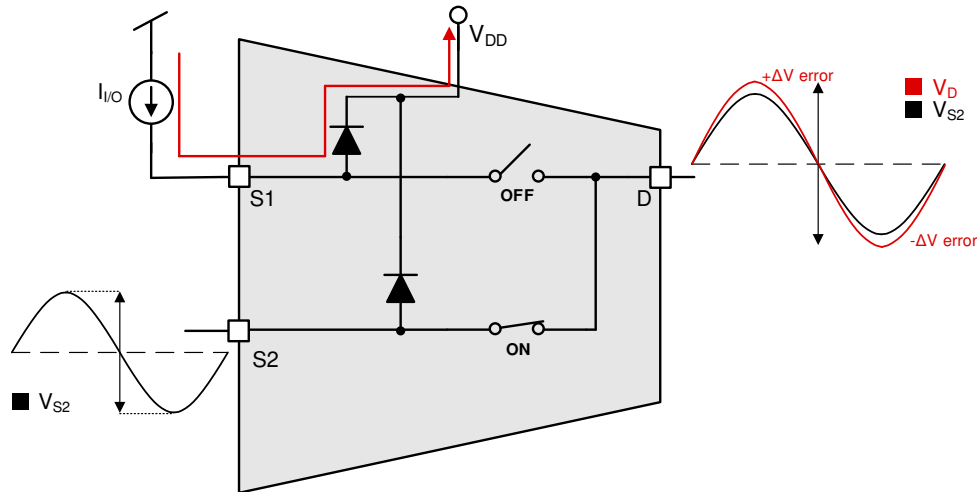

**Figure 9-1. Simplified Diagram of Typical CMOS Switch and Associated Injected Current Path**
**Injected Current Impact:** typical CMOS switches have ESD protection diodes on the inputs and outputs. These diodes not only serve as ESD protection but also provide a voltage clamp to prevent the inputs or outputs going above  $V_{DD}$  or below  $GND$  and  $V_{SS}$ . When current is injected into the pin of a disabled signal path, a small amount of current goes through the ESD diode but most of the current goes through conduction to the drain. If forward diode voltage of the ESD diode ( $V_F$ ) is greater than the PMOS threshold voltage ( $V_T$ ), then the PMOS of all OFF switches turns ON and there would be undesirable subthreshold leakage between the source and the drain that can lift the OFF source pins up also. Figure 9-1 shows a simplified diagram of a typical CMOS switch and associated injected current path.